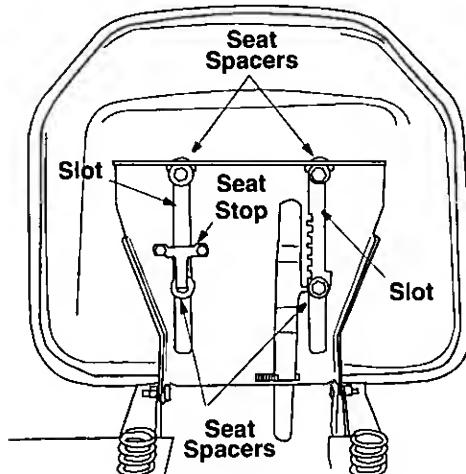

Figure 5
**Note:** If your seat was shipped in a box, line up plastic seat spacers with the slots in the seat pivot bracket and slide seat in until front seat spacer engages seat stop. See Figure 5.